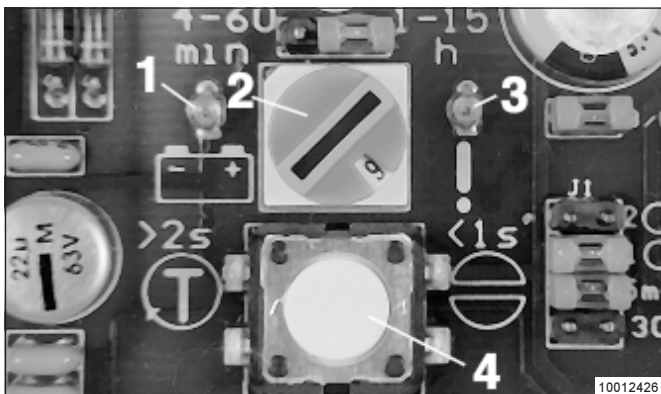

Fig. 16 - LED of the printed circuit board
- The following can be performed with the pushbutton (item 4, Fig. 16):
- * Switch the pump on again by triggering an additional lubrication cycle. For this, press the pushbutton (4, Fig. 16) **>2 seconds**.
- To check whether power is applied to the printed circuit board, observe whether the left-hand LED 1, Fig. 16, is lit.